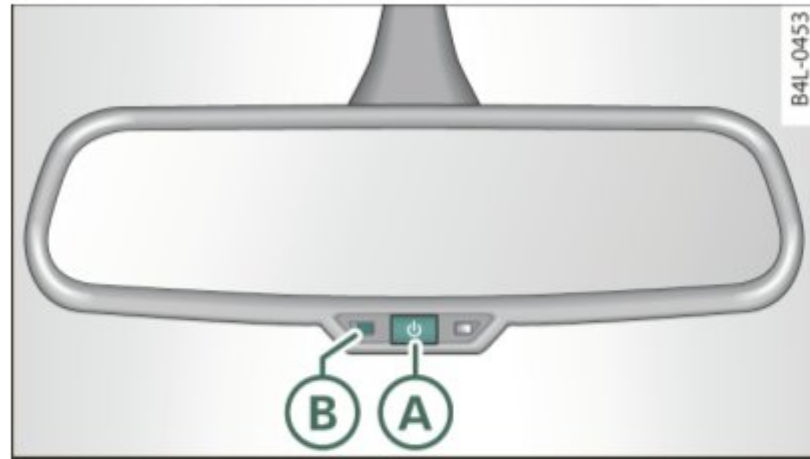

Fig. 60 Inside rear view mirror
- Press button **A** ⇒ fig. 60 *briefly*, - the green indicator light **B** goes out.